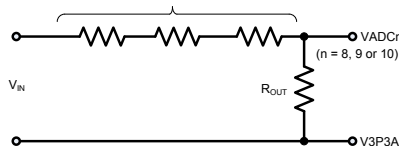
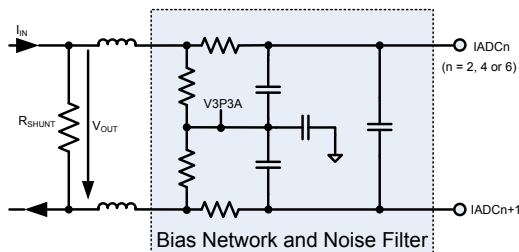
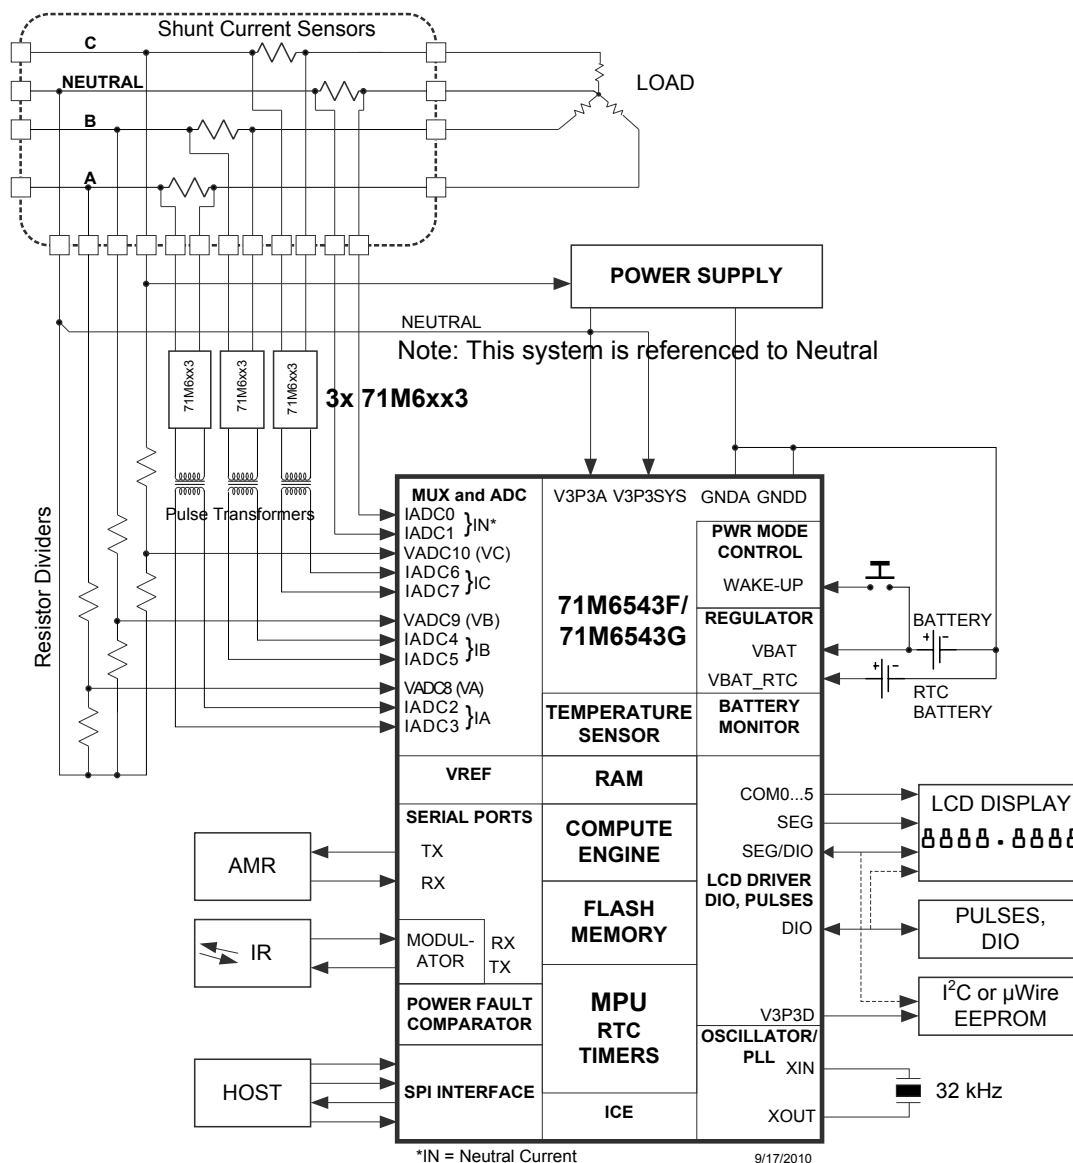
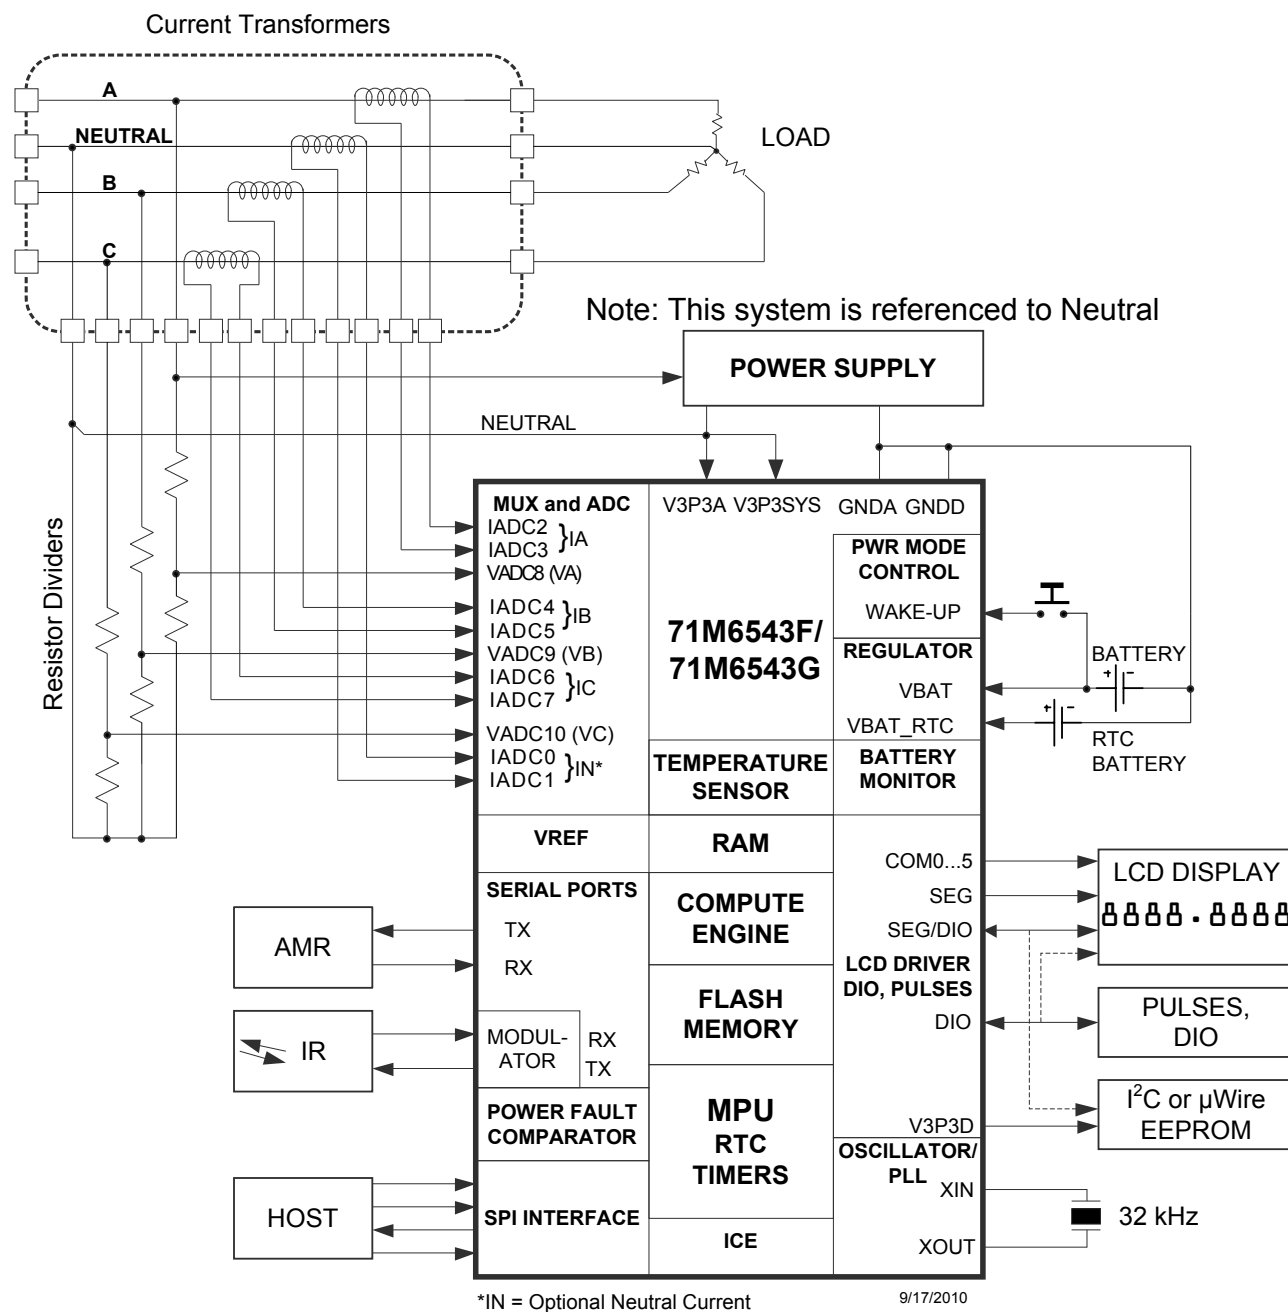

Figure 27: Resistive Voltage Divider (Voltage Sensing)
Figure 30: Differential Resistive Shunt Connections (Current Sensing)
Figure 31: System Using Three-Remotes and One-Local (Neutral) Sensor
Figure 32. System Using Current Transformers
Figure 27 through Figure 30 show voltage-sensing resistive dividers, current-sensing current transformers (CTs) and current-sensing resistive shunts and how they are connected to the voltage and current inputs of the 71M6543. All input signals to the 71M6543 sensor inputs are voltage signals providing a scaled representation of either a sensed voltage or current.
Figure 31 shows a typical connection for current shunt sensors; using the 71M6xx3 (polyphase) isolated sensors. Note that one shunt current sensor is connected without isolation, which is the neutral current sensor in this example (connected to pins IADC0-IADC1). Each 71M6xx3 device is electrically isolated by a low-cost pulse transformer. The 71M6543 current sensor inputs must be configured for remote sensor communications, as described in 2.2.8 71M6xx3 Isolated Sensor Interface (page 22). Flexible remapping using the I/O RAM registers  $MUXn\_SEL[3:0]$  allows the sequence of analog input pins to be different from the standard configuration (a corresponding CE code must be used). See Figure 2 for the AFE configuration corresponding to Figure 31.
Figure 32 shows a polyphase system using four current transformers to support optional Neutral current sensing for anti-tamper purposes. The Neutral current sensing CT can be omitted if Neutral current sensing is not required. The system is referenced to Neutral (i.e., the Neutral rail is tied to V3P3A and V3P3SYS).
This section discusses metrology temperature compensation for the meter designs where current shunt sensors are used in conjunction with the 71M6xx3 remote isolated sensors, as shown in Figure 31.
Referring to Figure 31, the VADC8 (VA), VADC9 (VB) and VADC10 (VC) voltage sensors are always directly connected to the 71M6543. Thus, the precision of the voltage sensors is primarily affected by VREF in the 71M6543. The temperature coefficient of the resistors used to implement the voltage dividers for the voltage sensors (see Figure 27) determine the behavior of the voltage division ratio with respect to temperature. It is recommended to use resistors with low temperature coefficients, while forming the entire voltage divider using resistors belonging to the same technology family, in order to minimize the temperature dependency of the voltage division ratio. The resistors must also have suitable voltage ratings.
Table 66 shows the five *GAIN\_ADJx* equation output storage locations and the voltage or current sensor channels for which they compensate for the 1 Local / 3 Remote configuration shown in Figure 31.
**Table 66: GAIN\_ADJn Compensation Channels (Figure 2, Figure 31, Table 1)**
This section discusses metrology temperature compensation for meter designs where Current Transformer (CT) sensors are used, as shown in Figure 32.
Referring to Figure 32, the VADC8 (VA), VADC9 (VB) and VADC10 (VC) voltage sensors are directly connected to the 71M6543. Thus, the precision of the voltage sensors is primarily affected by VREF in the 71M6543. The temperature coefficient of the resistors used to implement the voltage dividers for the voltage sensors (see Figure 27) determine the behavior of the voltage division ratio with respect to temperature. It is recommended to use resistors with low temperature coefficients, while forming the entire voltage divider using resistors belonging to the same technology family, in order to minimize the temperature dependency of the voltage division ratio. The resistors must also have suitable voltage ratings.
**Table 67:  $GAIN\_ADJx$  Compensation Channels (Figure 3, Figure 32, Table 2)**